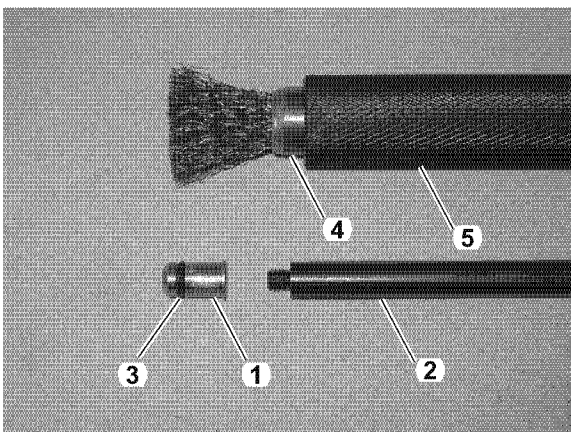

Figure 6-13
3. Thread the tip (special tool OEM No. 13 5 215) (1, **Figure 6-13**) onto the end of special tool OEM No. 13 5 214 (2, **Figure 6-13**).
4. Ensure O-ring (3, **Figure 6-13**) is in place and insert the tip into hole at bottom of injector cavity.
6. Push brush (4, **Figure 6-13**) into guide sleeve (special tool OEM No. 13 5 210) (5, **Figure 6-13**).